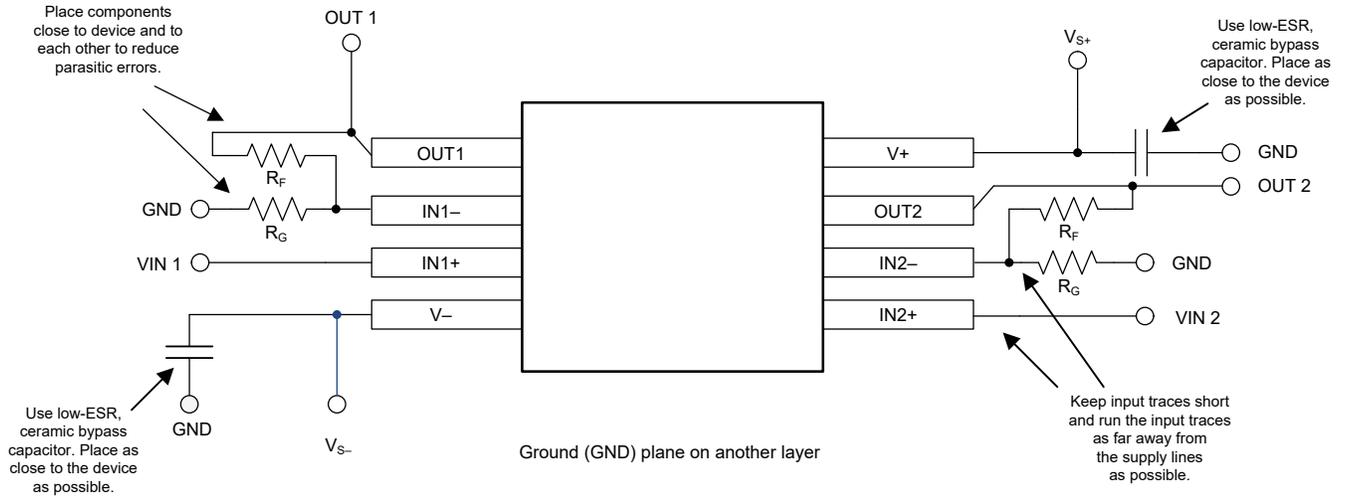

Figure 7-4. Operational Amplifier Board Layout for Noninverting Configuration
- Place the external components as close to the device as possible. As illustrated in Figure 7-4, keeping RF and RG close to the inverting input minimizes parasitic capacitance.